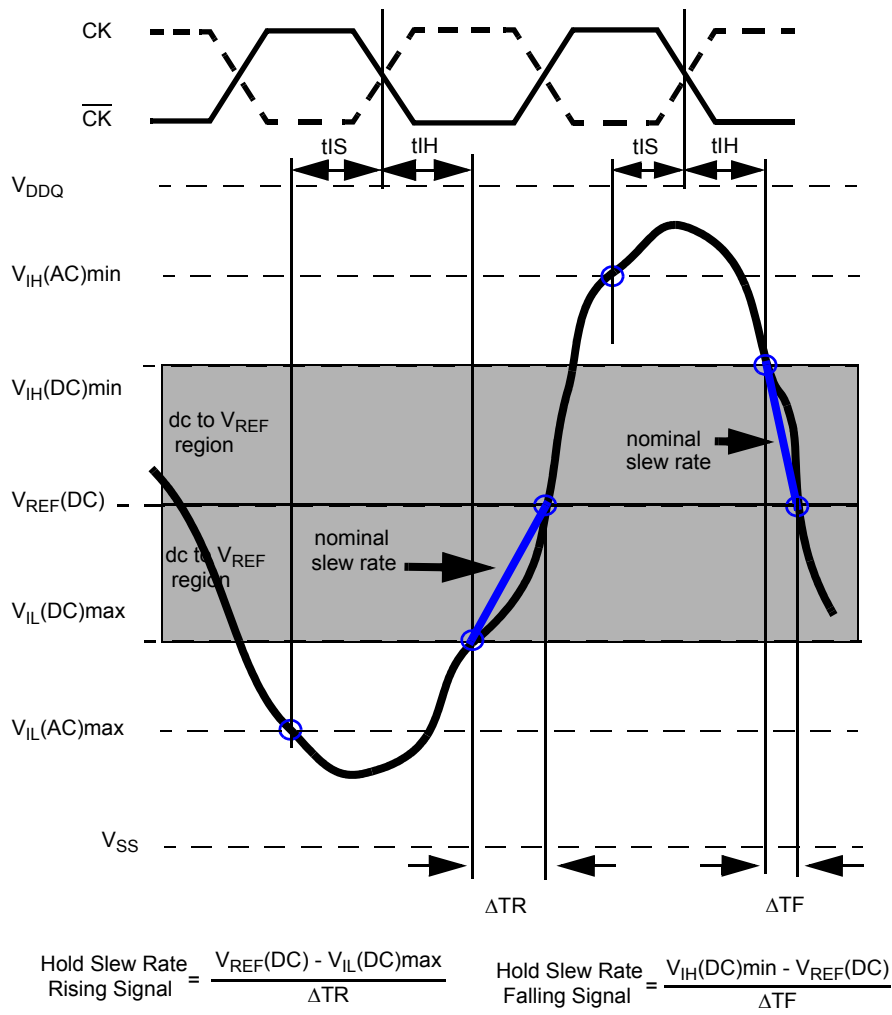
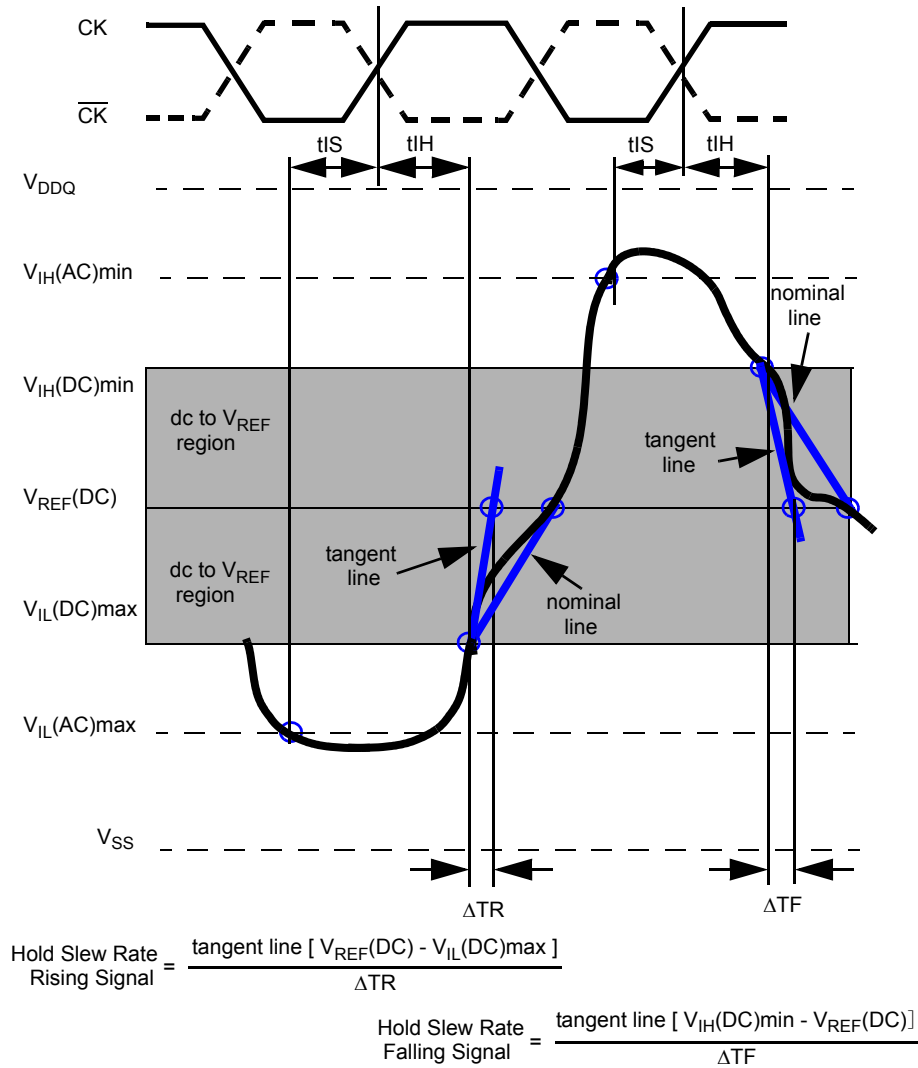

Figure 17. Illustration of nominal slew rate for  $t_{IH}$
Figure 18. Illustration of tangent line for tIH
Hold (tIH) nominal slew rate for a rising signal is defined as the slew rate between the last crossing of VIL(DC)max and the first crossing of VREF(DC). Hold (tIH) nominal slew rate for a falling signal is defined as the slew rate between the last crossing of VIH(DC)min and the first crossing of VREF(DC). If the actual signal is always later than the nominal slew rate line between shaded 'dc to VREF(DC) region', use nominal slew rate for derating value (see Figure 17). If the actual signal is earlier than the nominal slew rate line anywhere between shaded 'dc to VREF(DC) region', the slew rate of a tangent line to the actual signal from the dc level to VREF(DC) level is used for derating value (see Figure 18).